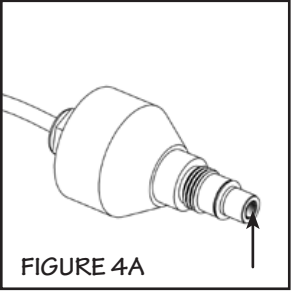

FIGURE 4A
2. Once the sensor is free from the reactor chamber, soak in a commercial scale remover (CLR or Lime-A-Way) for 30 minutes and clean the quartz window (Figure 4A) with and a lint free cotton swab (Figure 4D). Follow all manufacturer's instructions regarding the cleaning fluid used. Do not use an abrasive cleaner on the sensor window. Scratching of the sensor window will void any manufacturer's warranty on this item.